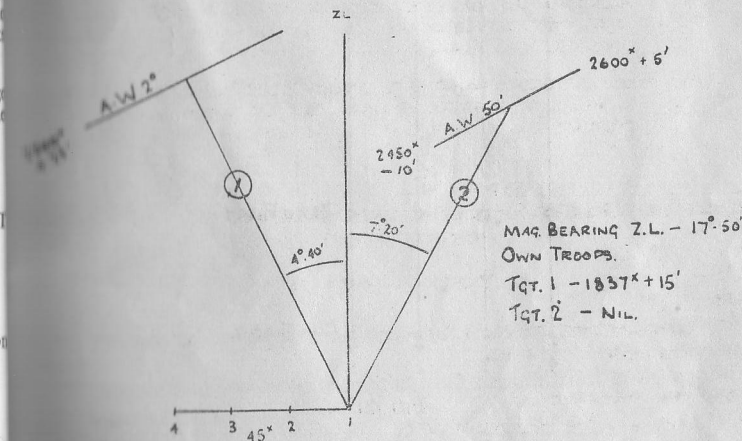

FIG 39
2. Explain the methods of recording data. An example is given in Fig 39 below.